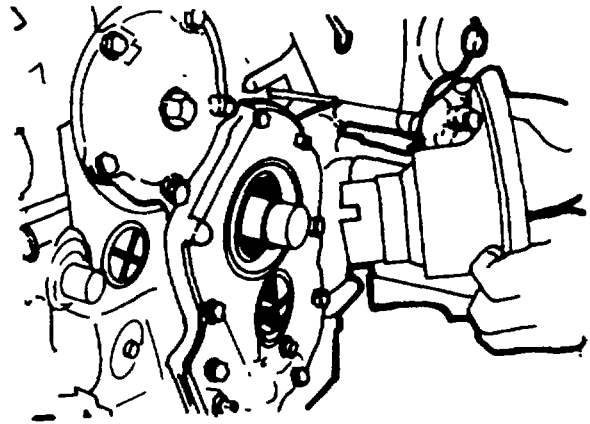

Figure 5-59. Removing V-Belt Pulley
2. Remove V-belt pulley (figure 5-59).